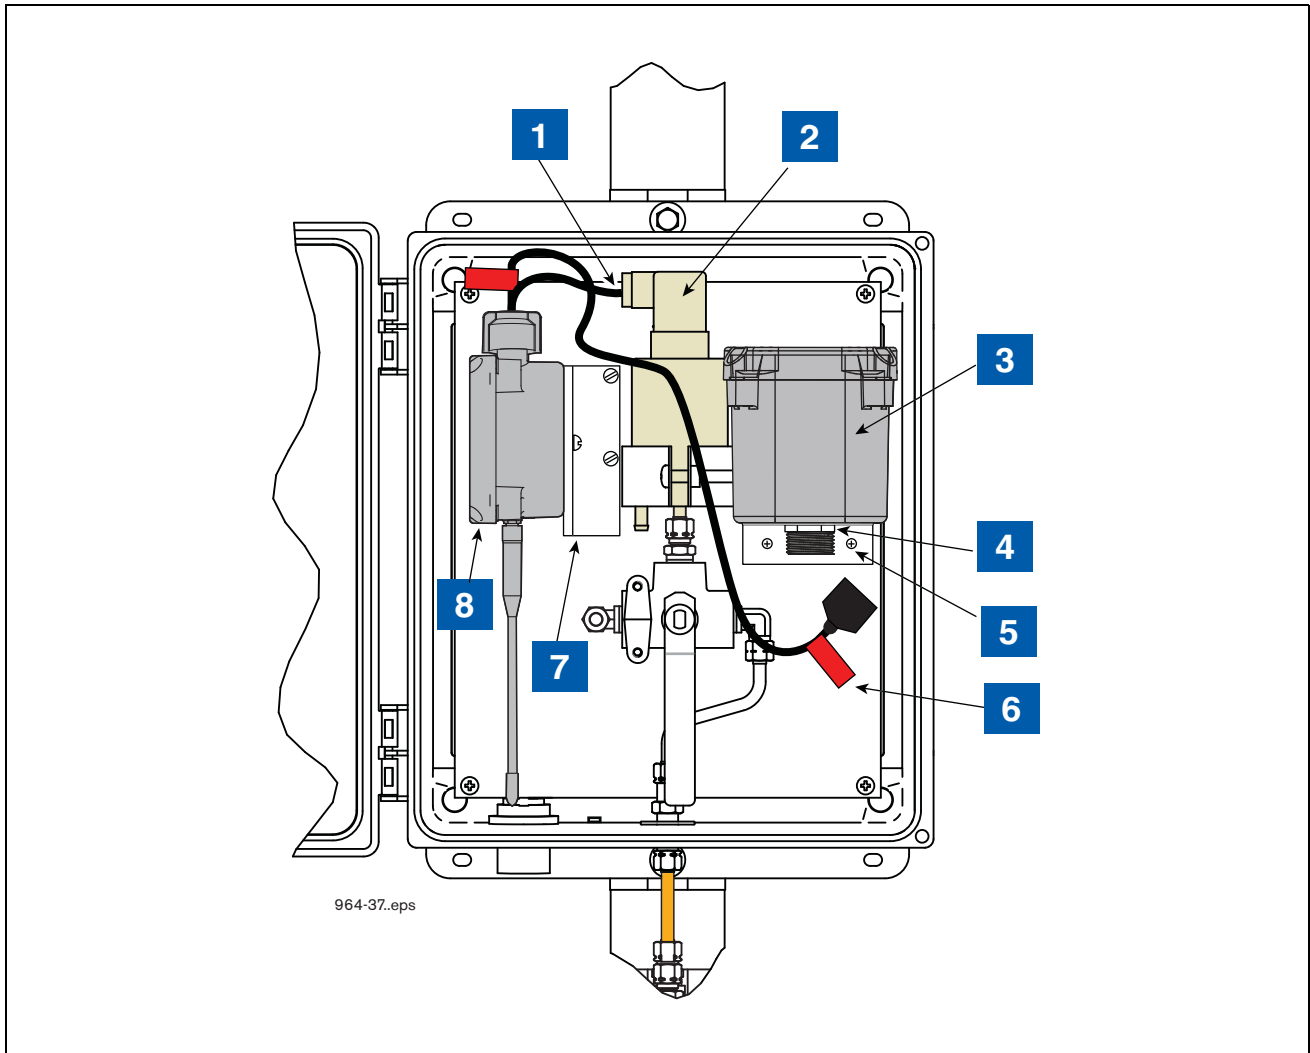

Figure 23. Example VRPS Transmitter/battery Pack Installation In The Universal Enclosure
5. Get the thin hex nut from the kit and screw it onto the battery housing cable connector threaded fitting until snug (see item 4 in Figure 23).
6. Attach the battery housing/bracket assembly to the back mounting surface of the Universal Enclosure using two #10 taptite screws from the kit (see item 5 in Figure 23).
**LEGEND FOR NUMBERED BOXES IN Figure 23**